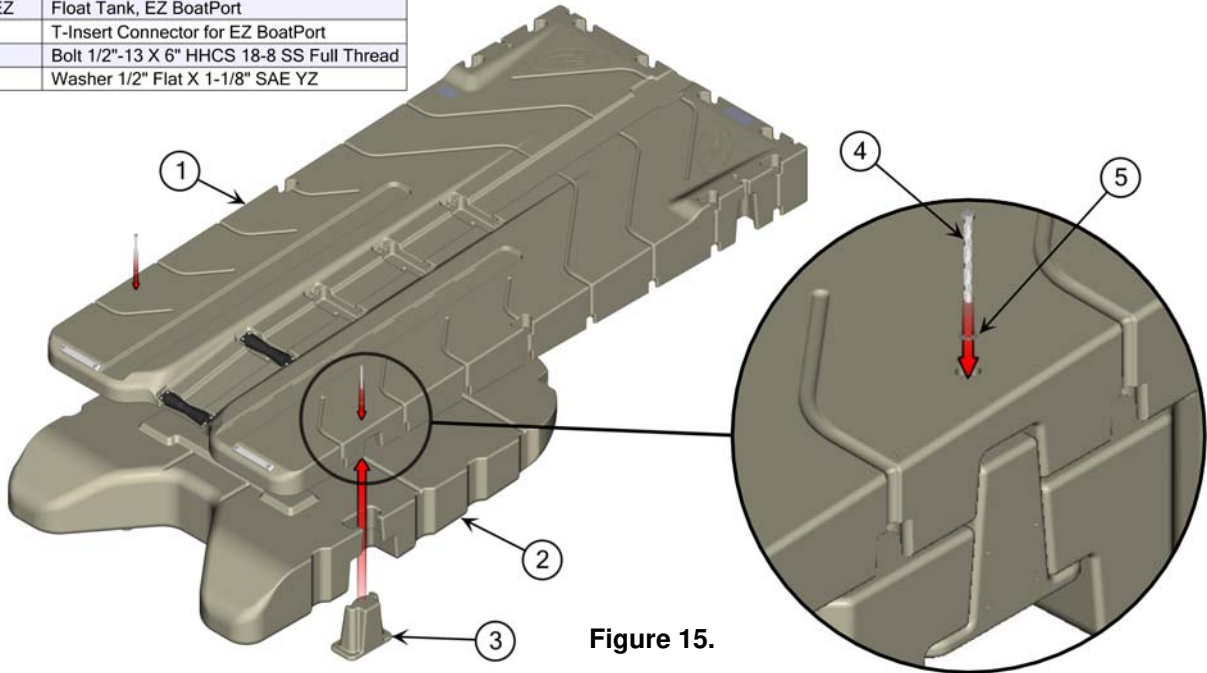

Figure 15.
- Attach float tank (Figure 15):
- 2. Slide two (2) T-Inserts (Item 3) through the float tank pockets into the EZ BoatPort (Item 1) connector pockets. Make sure the T-Inserts are fully inserted.